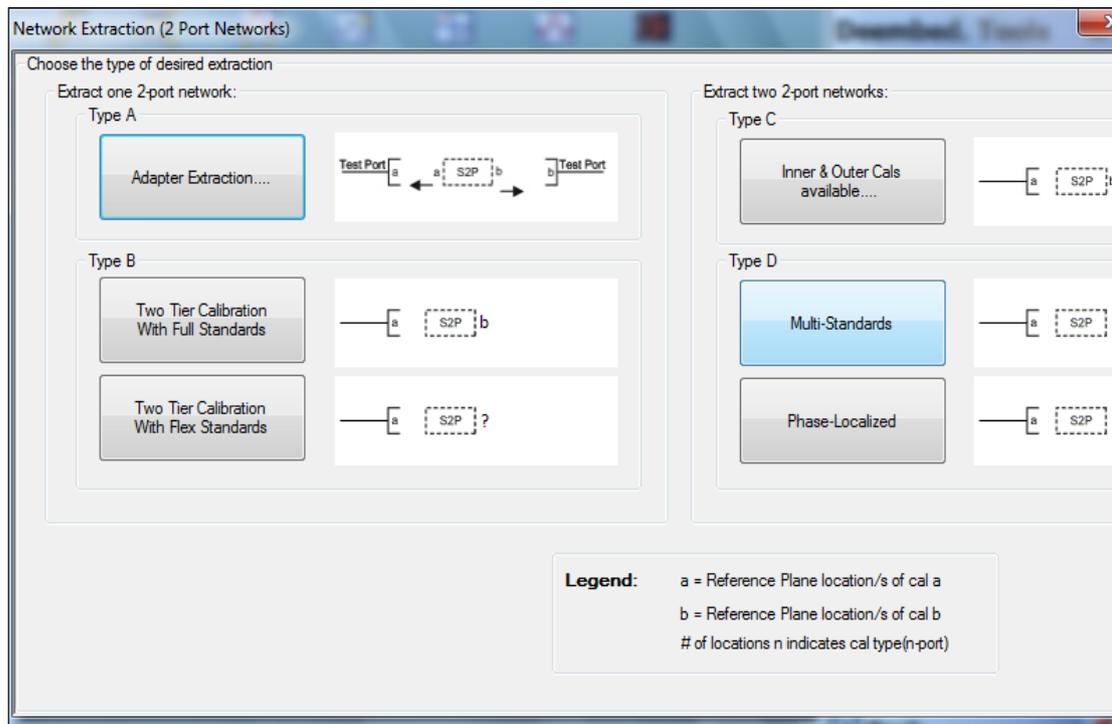

Figure 2. Network Extraction options using Option 21, UFX.
4. Use the two calibration files in the previous two steps to conduct type B network extraction, which will automatically generate the .s2p file for the target probe (Figure 2).